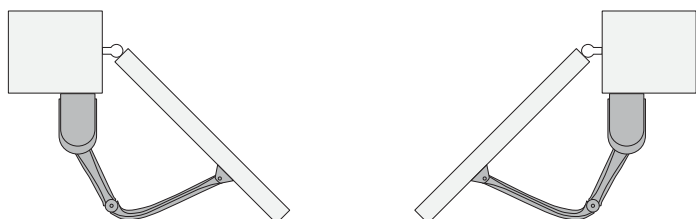

Fig.20
11. After installing and adjusting the motors, position the leaves halfway along their stroke so that, after making the electrical connections, they can learn the opening and closing procedures correctly **Fig. 20**.